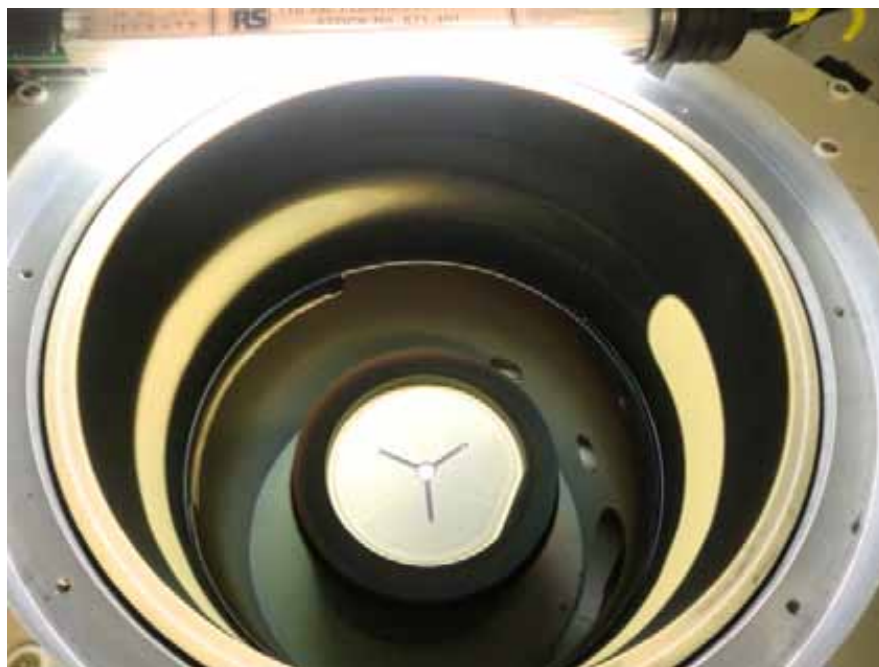
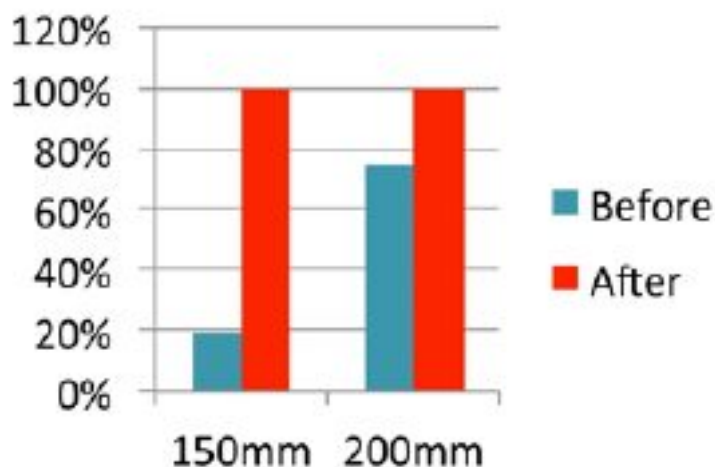
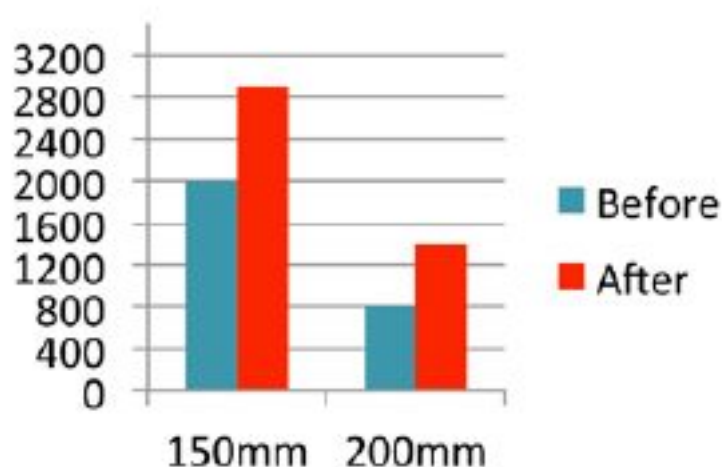

FIGURE 4. Beneficial results can be distinguished in chamber conditions where no discernable flaking is evident.
FIGURE 5. PM hit rate.
FIGURE 6. PM interval.
As a result of responding to the aforementioned findings, the beneficial results can be distinguished firstly in the observed chamber conditions as shown in **FIGURE 4** where no discernable flaking was evident. In terms of key fab metrics, PM hit rate was sustained at 100 percent (**FIGURE 5**) which provided confidence to enable a PM interval increase by 45 percent on 150mm tools and 75 percent on 200mm tools (**FIGURE 6**). From a PY perspective, losses from polymer flake defects were eliminated, and with fab cost being a perennial challenge, resulted in a reduction in PM-related CoO by 19 percent. This was realized by eliminating unplanned PMs and increasing PM interval.
CCS TDDb ($24\text{mA}/\text{cm}^2$)DMOSFET $2.2\text{mm} \times 2.4\text{mm}$, $n=22$ each**FIGURE 5.** (L) Constant Current - Time Dependent Dielectric Breakdown Measurements**FIGURE 6.** (C) V_{th} increases due to extended application of positive gate voltage.**FIGURE 7.** (R) V_{th} decreases due to extended application of negative gate voltage.
A standard test that measures the quality of gate oxide MOS is the Constant Current Stress Time-Dependent Dielectric Breakdown (CCS TDDb), shown in **FIGURE 5**. The accumulated charge QBD is a quality indicator of the gate oxide layer. The value of $15\text{--}20^{\circ}C/cm^2$ is equivalent to that of silicon MOSFETs.
FIGURE 6 shows that when a positive voltage is applied to the gate for an extended period of time, crystal defects at the oxide-SiC interface trap electrons and cause V_{th} to increase.